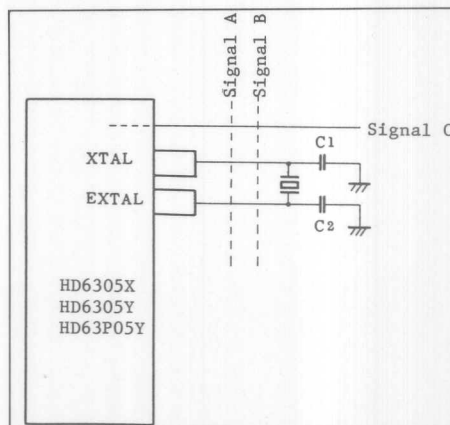

Fig. 4-11 Example Circuit Causing Trouble in Oscillation
- (1) Locate crystal, ceramic resonator, and load capacity C1 and C2 as near the LSI as possible. (Induction of noise from outside to the XTAL and EXTAL pins may cause trouble in oscillation.)
- (2) Wire the signal lines to the neighbouring XTAL and EXTAL pins as far apart as possible.
- (3) Board design of situating signal lines or power supply lines near the oscillator circuit as shown in Fig. 4-11, should not be used because of trouble in oscillation by induction. The resistor between the XTAL and EXTAL, and pins close to them should be 10M Ω or more.